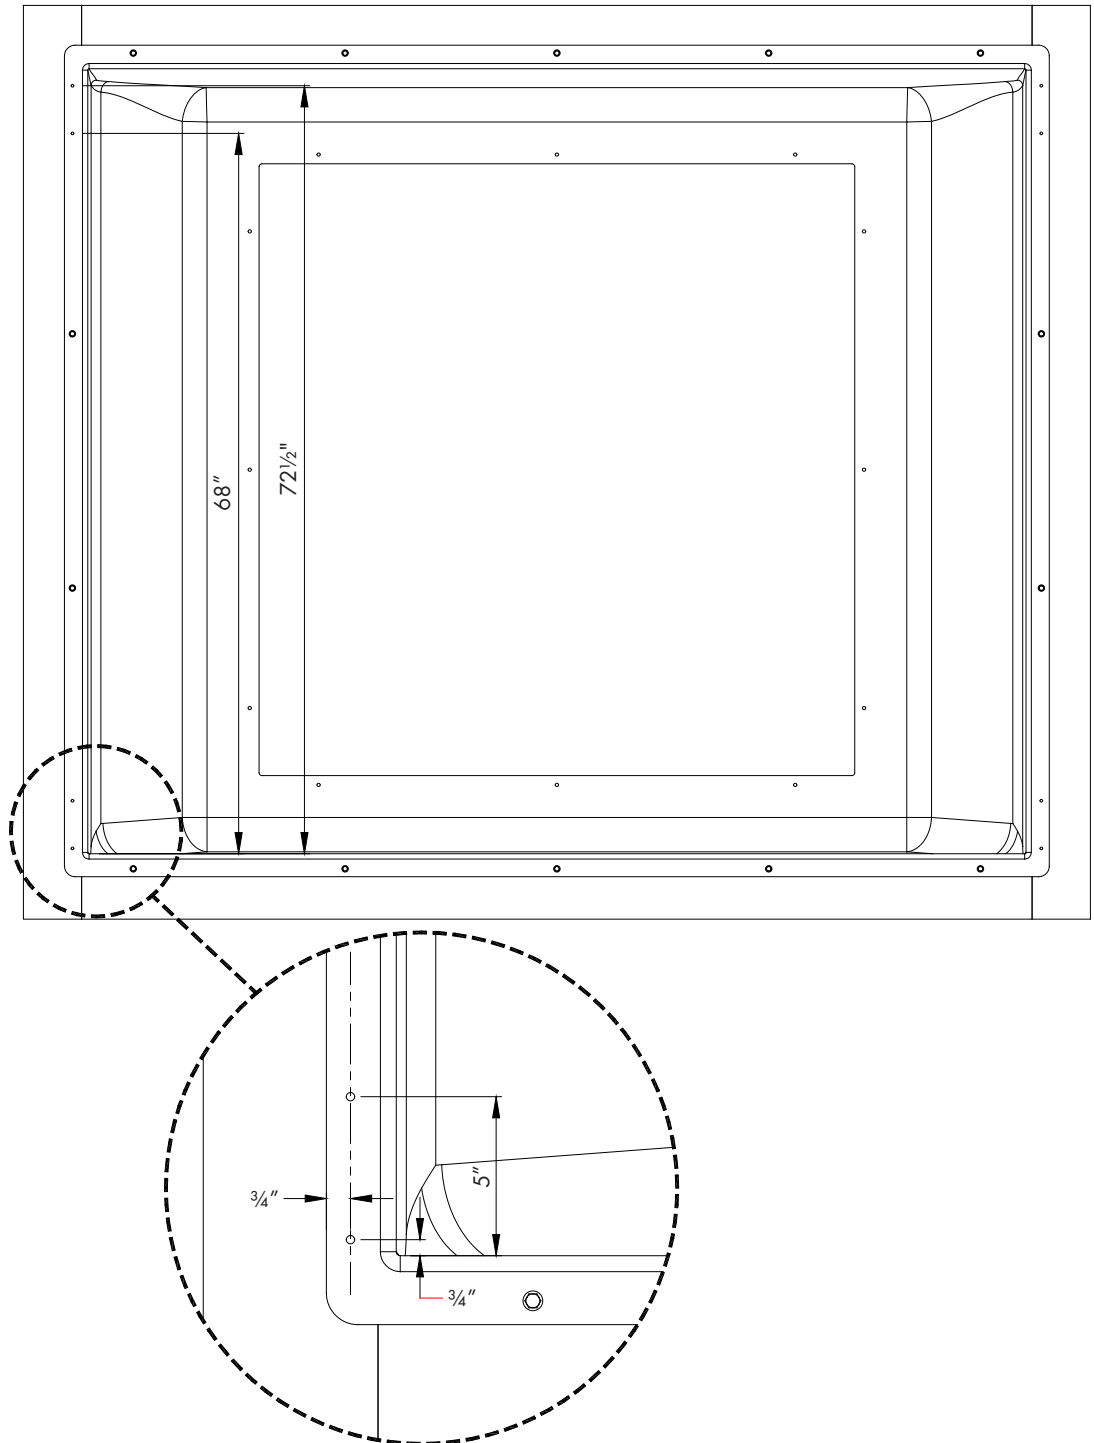

Figure 3
Snap a vertical chalk line on each side flange of the LTX Housing, $\frac{3}{4}$ " from the outside edge of flange. Then drill (4) $\frac{9}{32}$ " holes in the flange, making sure to only drill $\frac{1}{4}$ " into the framing. All holes should be positioned on the chalk line and measured vertically from the inside bottom of the housing. The 1st hole (bottom hole) should be $\frac{1}{2}$ " up, 2nd hole 5" up, 3rd hole 68" up, and 4th hole 72 $\frac{1}{2}$ " up. See Figure 3.